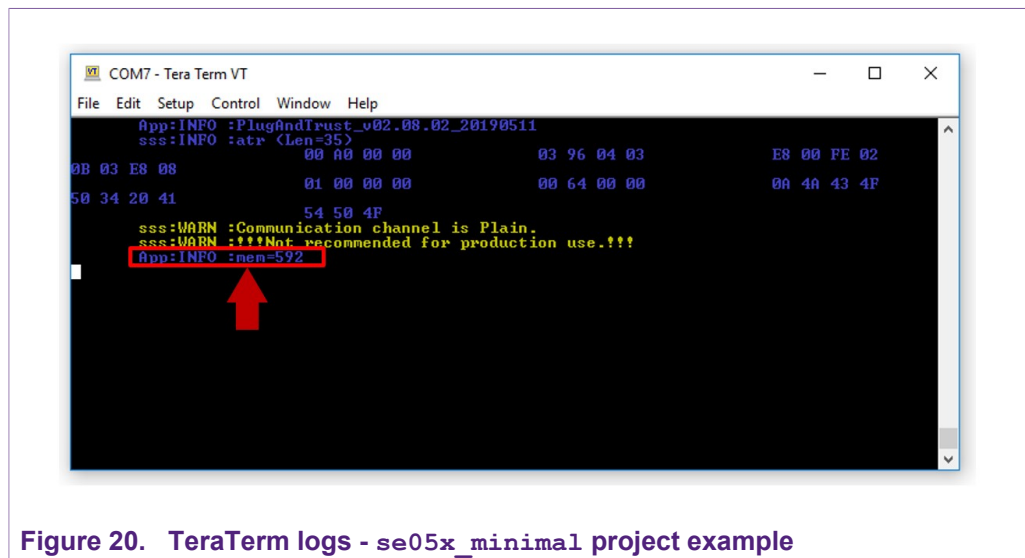

Figure 20. TeraTerm logs - `se05x_minimal` project example
- Once the program execution begins, logs are printed on the terminal application indicating the execution status. For the `se05x_minimal` project example, the logs should indicate the available memory in EdgeLock SE050 (in this case, 592) as can be seen in Figure 20